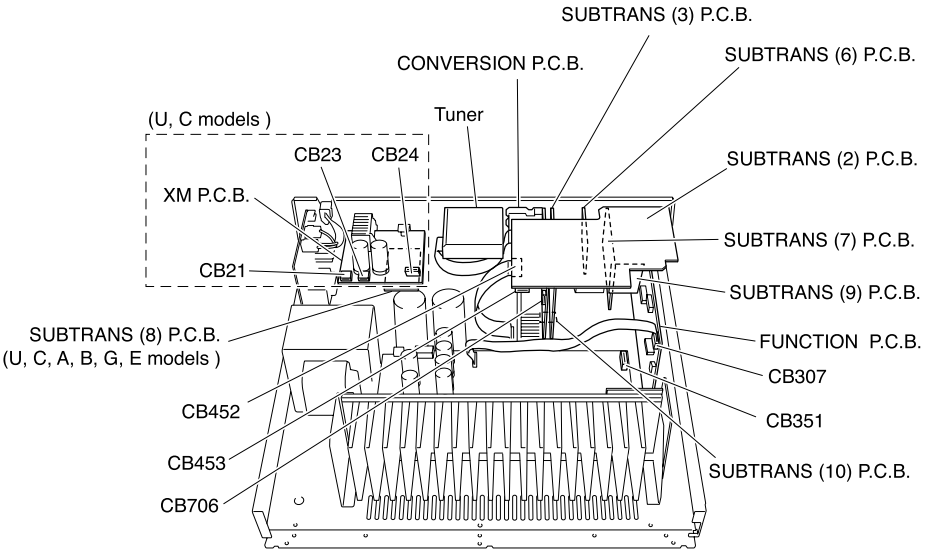

Fig. 4
6. Removal of FUNCTION, SUBTRANS (2), (3), (6), (7), (8) (U, C, A, B, G, E models), (9), (10), CONVERSION, XM (U, C models) P.C.B.s and Tuner
- a. Remove CB21, CB23, CB24 (U, C models), CB307, CB351, CB452, CB453 and CB706. (Fig. 4)
- c. Remove FUNCTION, SUBTRANS (2), (3), (6), (7), (8) (U, C, A, B, G, E models), (9), (10), CONVERSION, XM (U, C models) P.C.B.s and the Tuner. (Fig. 4)
- a. CB307、CB351、CB452、CB453、CB706を外します。(Fig. 4)
- c. FUNCTION、SUBTRANS(2)、(3)、(6)～(10)、CONVERSION P.C.B.、TUNERを取り外します。(Fig. 4)